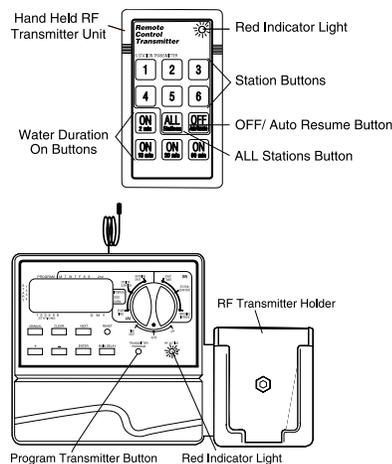

Figure 17: Watering Using Wireless Remote Features
- Press the desired station button on the Transmitter (number 1, 2, 3, etc.). The Transmitter will beep once, and the red light will turn on [See Figure 17].
60 minute durations). The Transmitter will beep three times to confirm the command. The Timer's red light will flash several times to acknowledge receipt of the wireless signal [See Figure 17]. During wireless watering, the Timer display will show the active station being watered (an "A" above the station number), show remote, and count down the number of minutes remaining for that station.
- Press the all button on the Transmitter. The Transmitter will beep once, and the red light will turn on [See Figure 17].
- Press the desired watering duration on button (choose 2, 10, 30, or 60 minute durations). The Transmitter will beep three times to confirm the command. The Timer's red light will flash several times to acknowledge receipt of the wireless signal [See Figure 17]. During wireless watering, the Timer display will show the active station being watered (an "A" above the station number), show remote, and count down the number of minutes remaining for each station. Note that each station will be activated, regardless of the programming in the Timer.